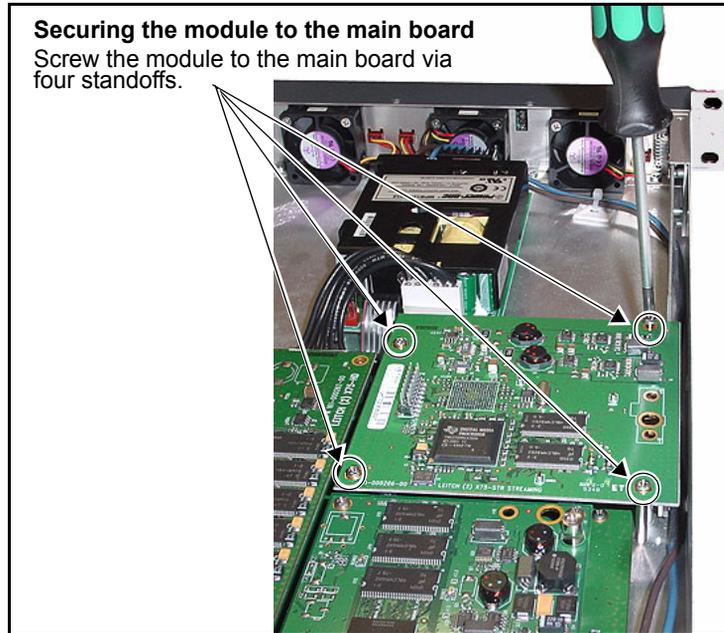

Figure C-22. Securing the Module to the Main Board
Figure C-22 on page 280 illustrates the location of the three module standoffs where you must install the screws.
2. Remove the three screws that secure the module to the main board. See Figure C-22 on page 280 to locate these screws.